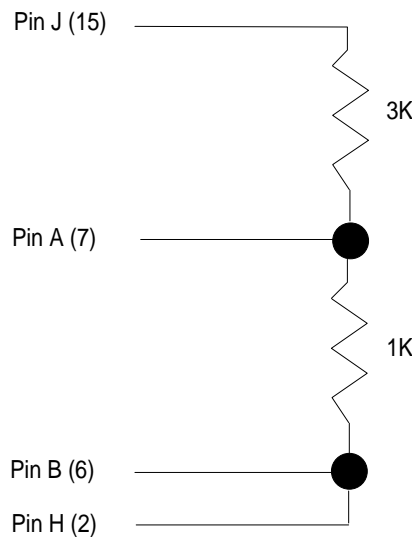

Figure 19: Two Resistors Added to the Transducer Cable
- Connect two resistors to the transducer cable, as shown in Figure 19.